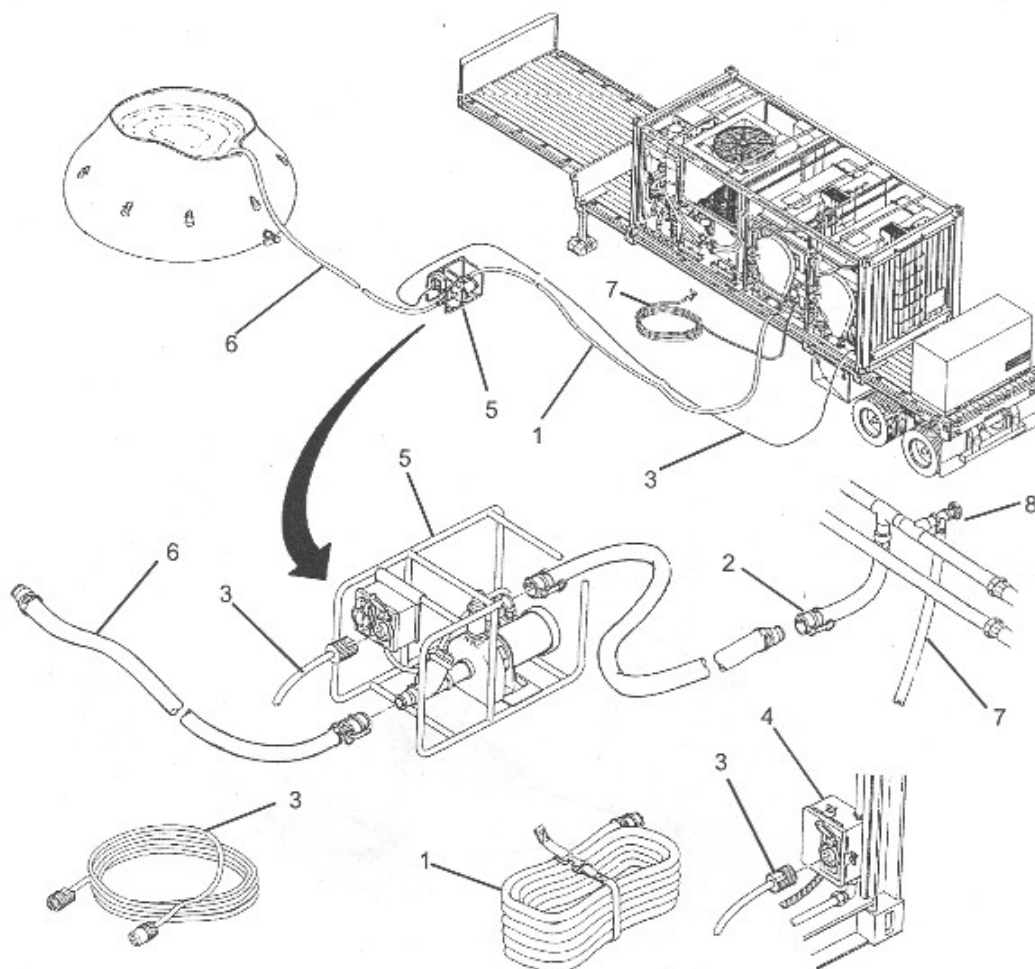

Figure 3-55
- (1) Disconnect 50 ft water supply hose at water supply port.
- (2) Disconnect electrical cable at junction box.
- (3) Disconnect hose at water supply pump.
- (4) Disconnect electrical cable at water supply pump.
- (5) Disconnect two 50 ft water supply hoses from each other.
- (6) Roll up two 50 ft water supply hoses and electrical cable.
- (7) Disconnect 10 ft water supply hose at water supply pump.
- (8) Remove or disconnect hose at water supply.
- (9) Disconnect utility hose from faucet. (See Figure 3-55)